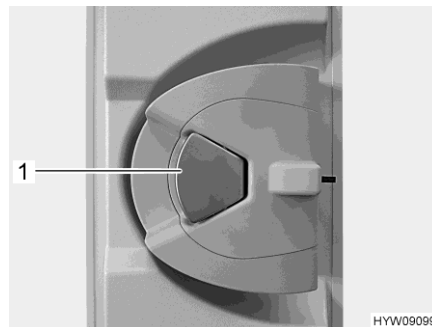

Fig. 30 Door lock (conversion door, inside)
- Opening:* ■ When the door lock is locked: Pull once at the door handle (Fig. 30,1). The door is unlocked.
- Pull on the door handle (Fig. 30,1). The door is open.
- Locking:* ■ Push the door handle (Fig. 30,1).